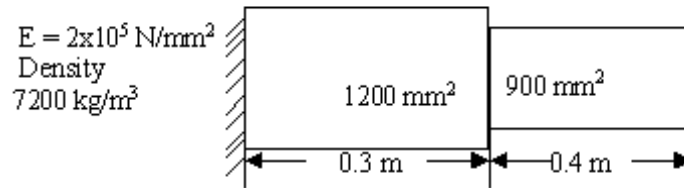

Figure 5
7. Consider the axial vibrations of a steel bar shown in the figure 5: